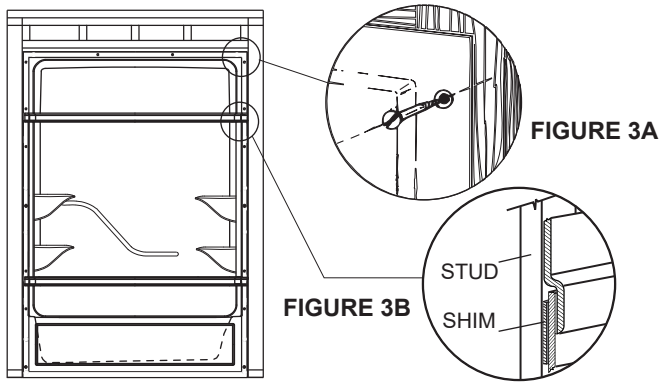

FIGURE 3 - FASTENING WITH DRYWALL SCREWS
- The shower is fastened in place using dry wall screws. Holes are to be drilled in the flange on both sides and across the top. The holes are to be drilled by the installer, installation is illustrated in figures 3 and 3A.
10. Fasten the unit into the framed alcove by the recessed 2" x 2" around the periphery of the opening as illustrated in Figure 3, (2 vertical studs and 1 across the top).
- Marked by dimple holes along the flanges drill 3/16" hole on each dimple, 7 on each side flanges and 2 across the top flange. Refer to Figure 3.
- La douche est attachée dans l'endroit en utilisant des vis murales sèches. Les trous doivent être forés dans le boudin des deux côtés et à travers le haut. Les trous doivent être forés par l'installateur, l'installation est illustrée dans les figures 3 et 3A.